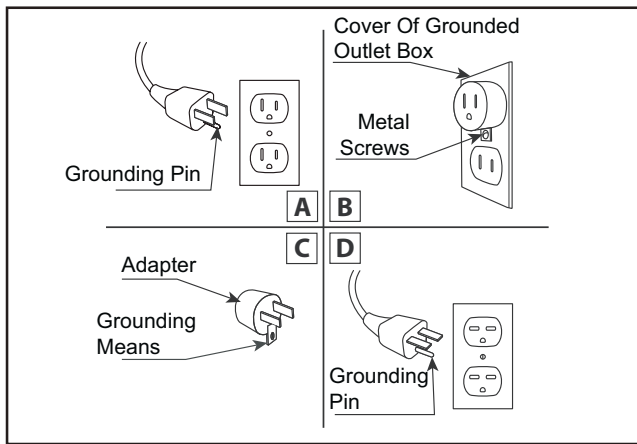

Fig. 1
22. Reference Fig. 1 for grounding instructions. This heater is for use on 120 volts. The cord has a plug as shown in Fig. 1A. An adapter as shown in Fig. 1C is available for connecting three-blade grounding type plugs to two-slot receptacles. The grounding pin extending from the adapter must be connected to a permanent ground such as a properly grounded outlet box. The adapter should not be used if a three-slot grounded receptacle is available.